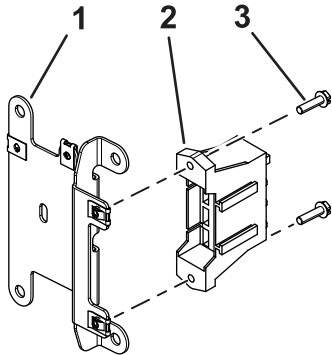

Figure 3
3. Install the fuse block on the wire harness to the fuse-mount plate using 2 screws (#10 x 3/4 inch) as shown in Figure 3.